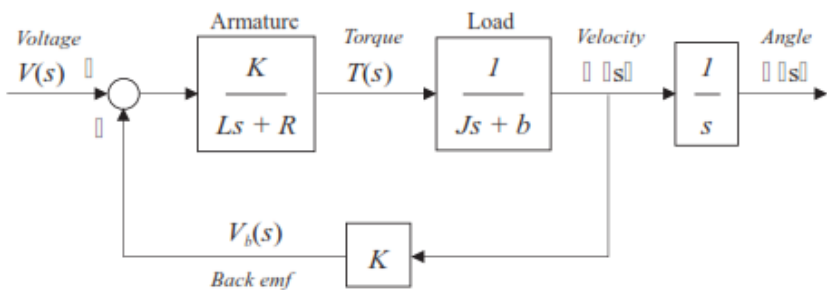

Fig. 13. Block diagram representing DC motor
2. Consider the following values for the physical parameters. The input is the armature voltage V in Volts (driven by a voltage source). Measured variables are the angular velocity of the shaft is ω in radians per second, and the shaft angle ϑ in radians. The block diagram for the DC motor is obtained as in Fig. 13. The transfer function from the input voltage, $V(s)$, to the output angle, $\theta(s)$ is given in (2).